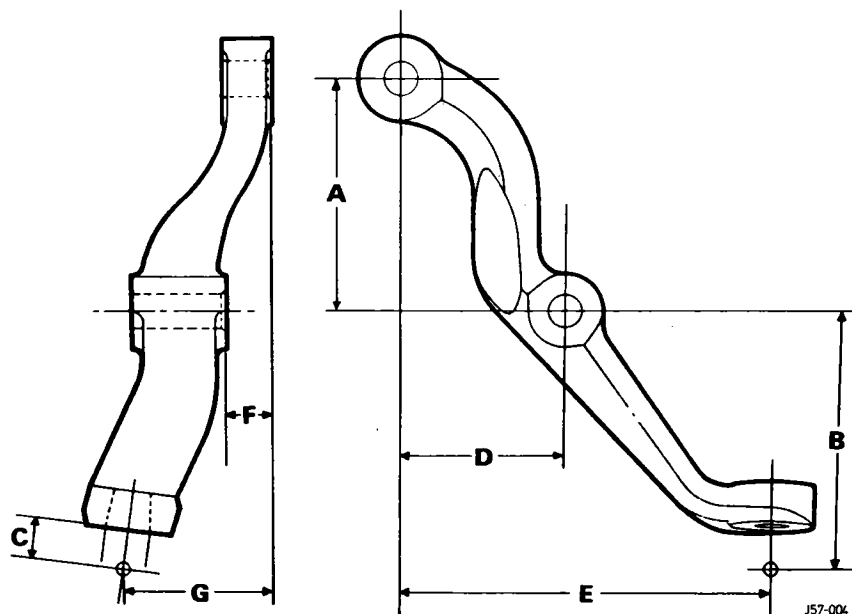

Fig. 5
Accurately check dimensions of each lever against those quoted in illustration (Fig. 5).
**DIMENSIONS—STEERING LEVER, Fig. 5**